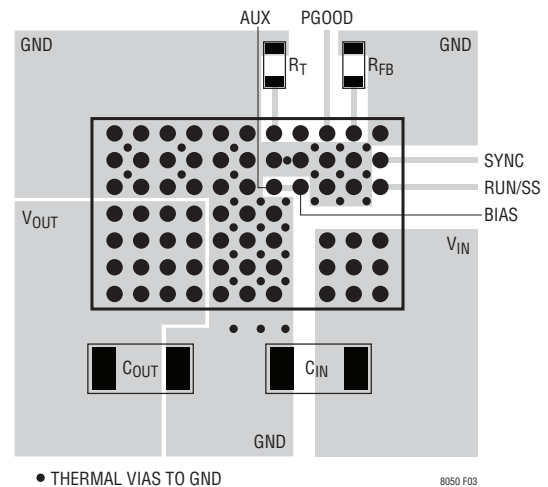

Figure 3. Layout Showing Suggested External Components, GND Plane and Thermal Vias
Most of the headaches associated with PCB layout have been alleviated or even eliminated by the high level of integration of the LTM8050. The LTM8050 is nevertheless a switching power supply, and care must be taken to minimize EMI and ensure proper operation. Even with the high level of integration, you may fail to achieve specified operation with a haphazard or poor layout. See Figure 3 for a suggested layout. Ensure that the grounding and heat sinking are acceptable.
6. For good heat sinking, use vias to connect the GND copper area to the board's internal ground planes. Liberally distribute these GND vias to provide both a good ground connection and thermal path to the internal planes of the printed circuit board. Pay attention to the location and density of the thermal vias in Figure 3. The LTM8050 can benefit from the heat-sinking afforded by vias that connect to internal GND planes at these locations, due to their proximity to internal power handling components. The optimum number of thermal vias depends upon the printed circuit board design. For example, a board might use very small via holes. It should employ more thermal vias than a board that uses larger holes.